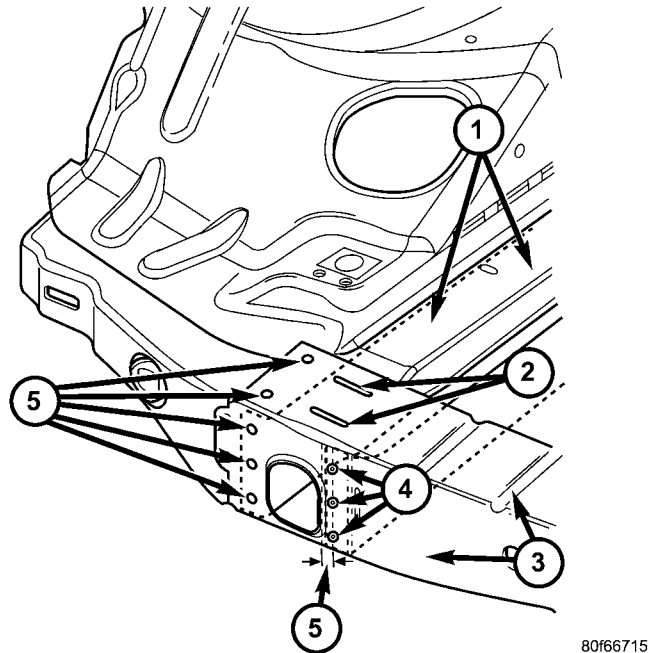

Fig. 1 FRONT BUMPER CROSSMEMBER
3. Draw a vertical line from top to bottom across the width of the front crossmember. The vertical line should be positioned so that it is 9 mm to the right, and parallel to, the inboard vertical edge of the right access hole (in the crossmember). See illustration (Fig. 1).